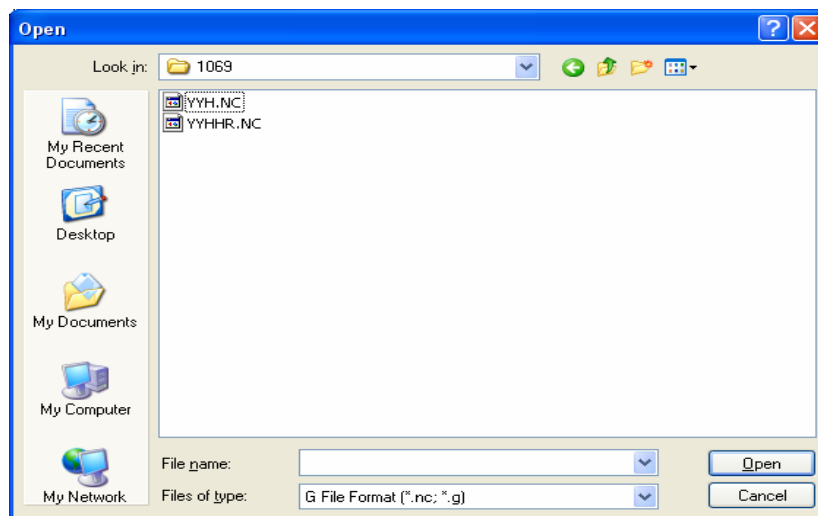

Fig. 10-21 [Open G code format files] dialogue
- Select [Import G code file] under [File] menu, [Opening file dialogue] will pop up as Fig. 10-21.